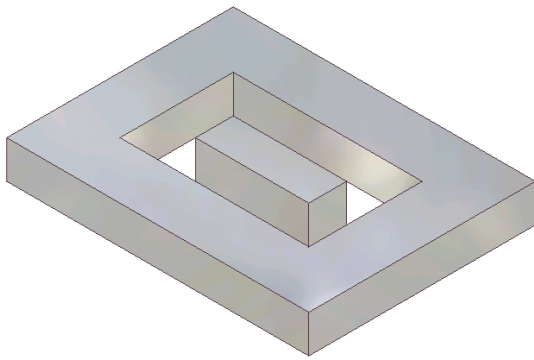
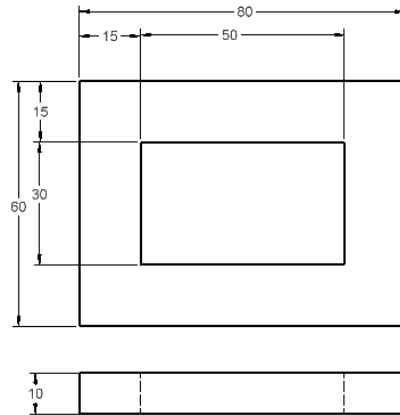
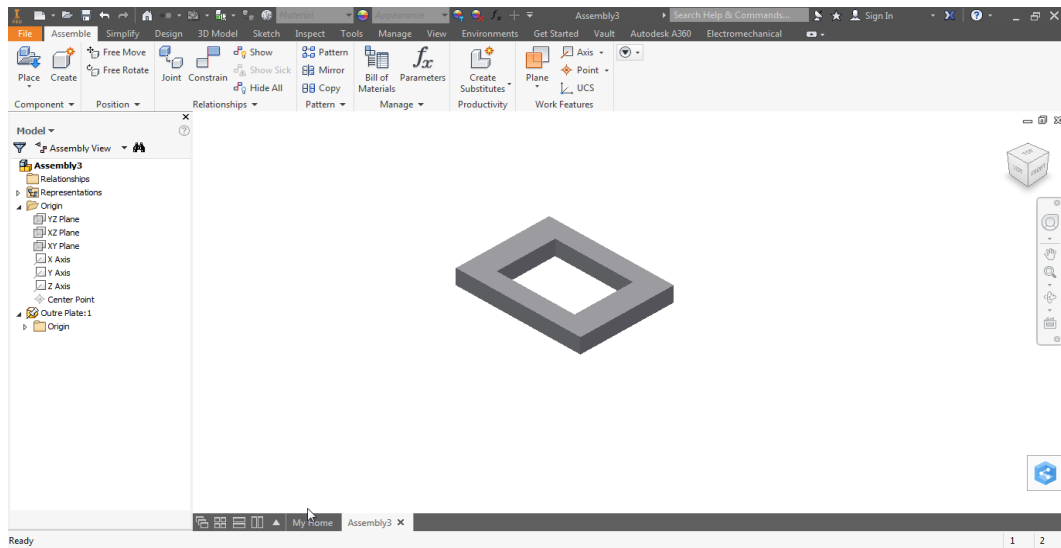

Figure 18-32 Assembly for Tutorial 2
Figure 18-33 Dimensions of the Outer Plate
Figure 18-34 Assembly after creating the Outer Plate
In this tutorial, you will create an assembly of the Outer Plate and the Inner Plate shown in Figure 18-32. The dimensions of the Outer Plate are shown in Figure 18-33. Create the Inner Plate as an adaptive part such that it automatically adjusts its size to fit inside the Outer Plate. Apply the **Mate** constraint with an offset of 10 mm to all the outer faces of the Inner Plate and the inner faces of the groove in the Outer Plate. After assembling the components, edit the inner cavity of the Outer Plate such that the Inner Plate again automatically adjusts its size.
- Start a new metric assembly file and then create the Outer Plate, refer to Figure 18-34.
4. Create the Outer Plate on the XY plane. After creating the Outer Plate, return to the assembly file. The assembly file after creating the Outer Plate is shown in Figure 18-34. For dimensions, refer to Figure 18-33.